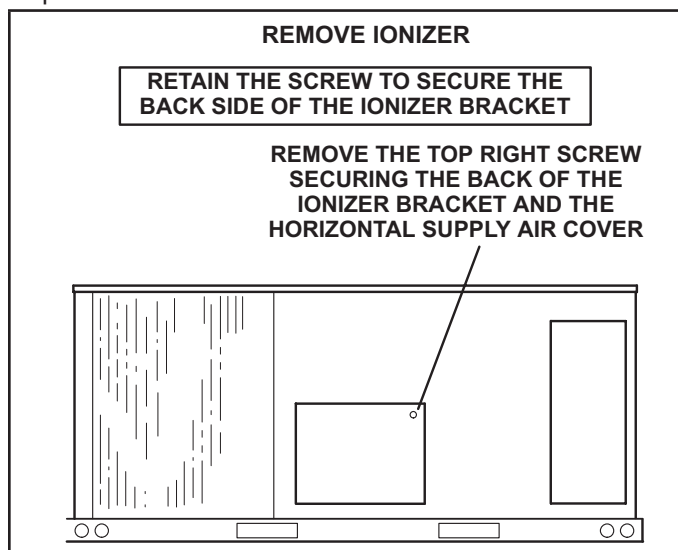

FIGURE 43
- 1 - On the back side of the unit, remove the screw securing the back of the ionizer bracket. See FIGURE 43. Retain the screw to secure the back side of the ionizer bracket.